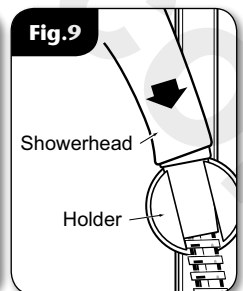

Fig.9
- Place the showerhead into the holder and check that it fits correctly (fig.9).